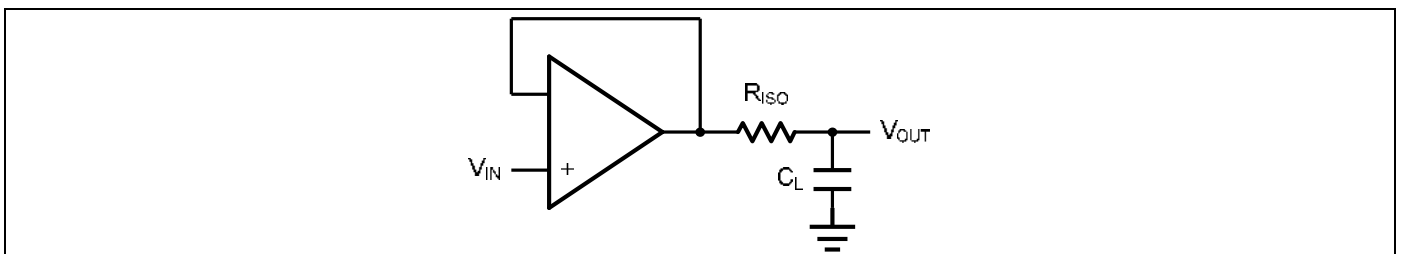
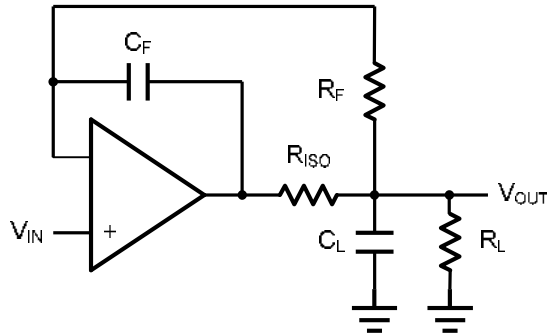

Figure 2. Indirectly Driving a Capacitive Load Using Isolation Resistor
Figure 3. Indirectly Driving a Capacitive Load with DC Accuracy
The ASOP863X family is optimized for bandwidth and speed, not for driving capacitive loads. Output capacitance will create a pole in the amplifier's feedback path, leading to excessive peaking and potential oscillation. If dealing with load capacitance is a requirement of the application, the two strategies to consider are (1) using a small resistor in series with the amplifier's output and the load capacitance and (2) reducing the bandwidth of the amplifier's feedback loop by increasing the overall noise gain. Figure 2. shows a unity gain follower using the series resistor strategy. The resistor isolates the output from the capacitance and, more importantly, creates a zero in the feedback path that compensates for the pole created by the output capacitance.
The circuit in Figure 3 is an improvement to the one in Figure 2. R_F provides the DC accuracy by feed-forward the V_{IN} to R_L . C_F